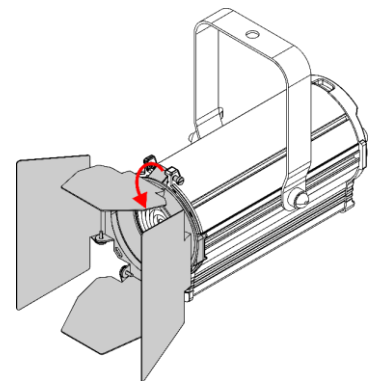

Fig. 12
- 03) Pull the **color frame clip (02)** downwards to release the **spring-loaded screw (01)** (see Fig. 12). The barndoor will be locked in position.
- 04) Secure the barndoor to the overhead structure with an appropriate secondary attachment, for example a safety cable. Put the safety cable through the **safety eye (16)** of the barndoor. See **4.3 Rigging** on page 13 for more information.